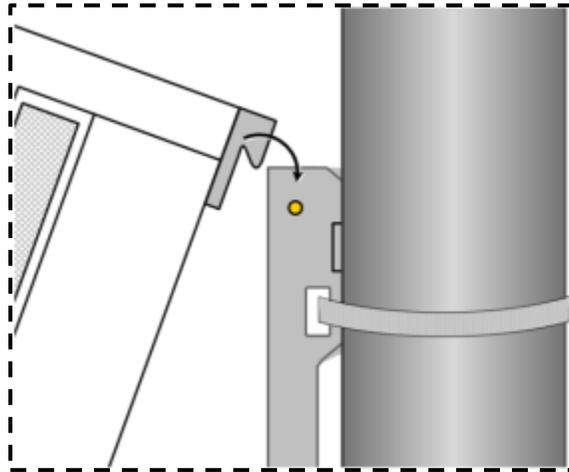

Figure 3-10. Hooking GX to Bracket
3. Connectors facing downwards, hook the GX Quad-band on to the top part of the bracket and then to the bottom. Refer to Figure 3-10.